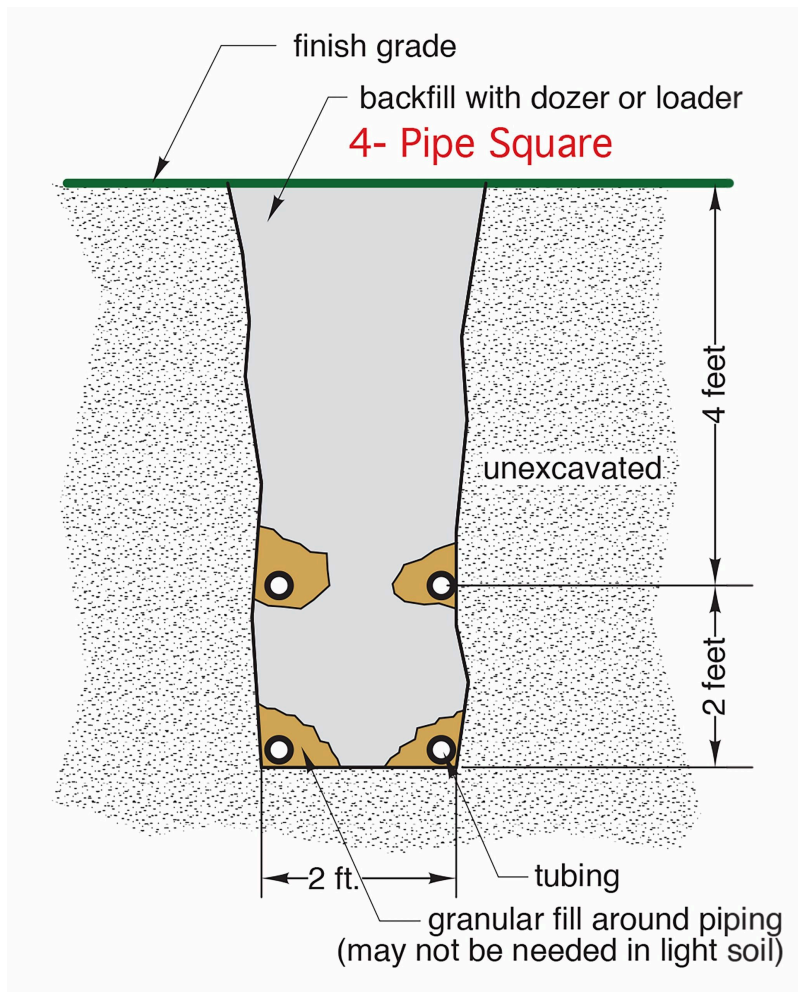

Figure 4 Four pipes in trench
- Figure 4 Typical 3-ton water-to-water heat pump cooling capacity © Caleffi Hydronic Solutions (<https://www.caleffi.com/usa/en-us>). Used with permission.